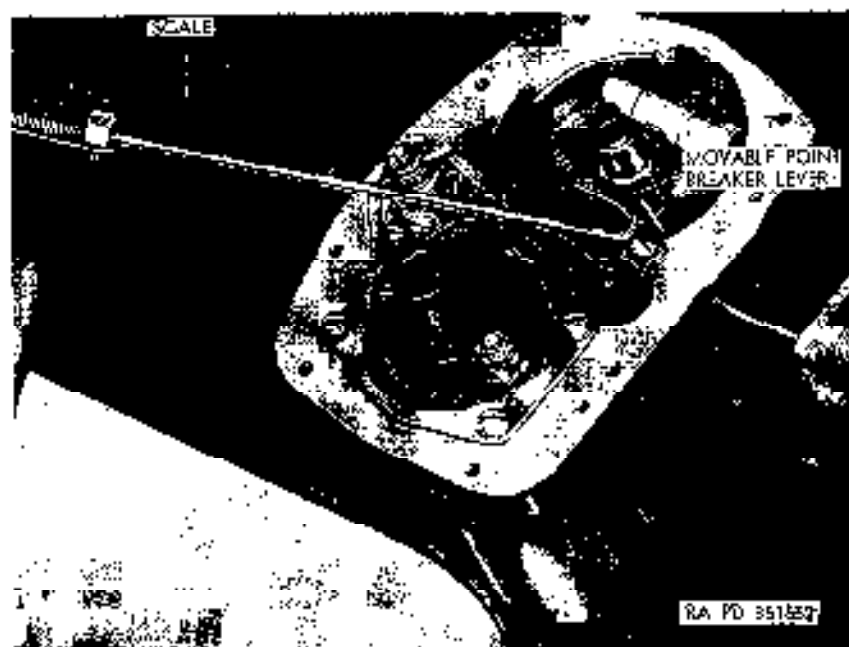

Figure 177. Checking distributor breaker cam spring tension.
- (b) **Test breaker lever spring tension.** With cover and rotor removed, hook spring scale (fig. 177) at end of breaker lever as close as possible to contact point, and pull breaker lever away from cam. Note pull on scale required to separate contact points. It is important that pull on scale required to open points be from 17 to 21 ounces. If scale reading indicates improper breaker lever spring tension, replace distributor point set (3) and (4) below. If scale indicates